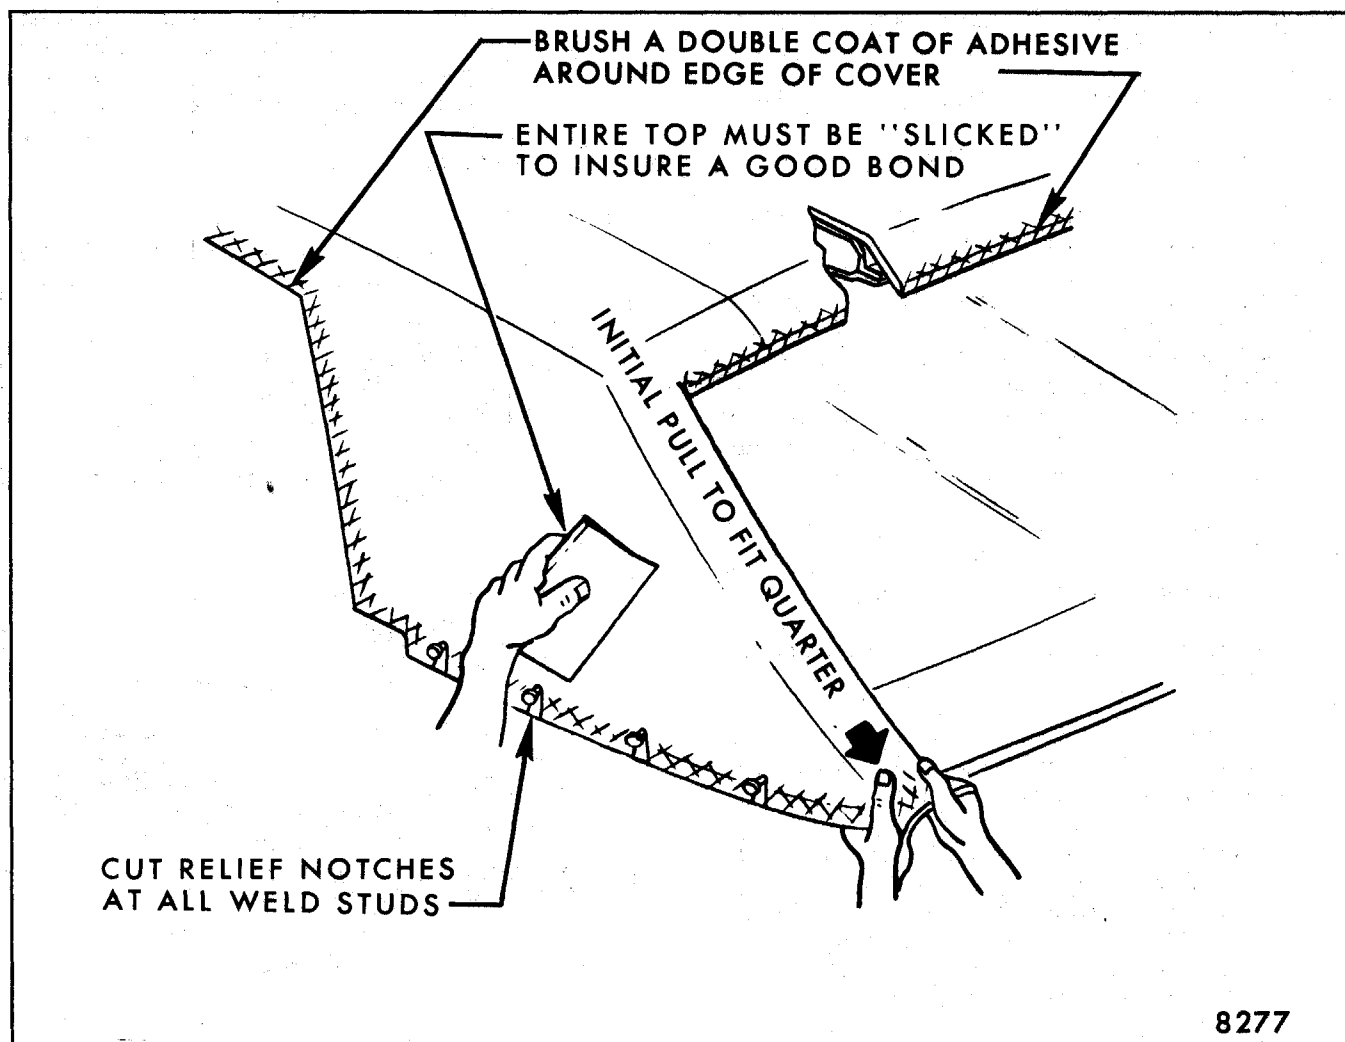

Fig. 8-35-Cementing Cover to Quarter Upper
11. On all styles, cement cover to quarter upper area by pulling cover down and rearward. When operation is completed, cover should be free of all wrinkles and draws in this area (Fig. 8-35).